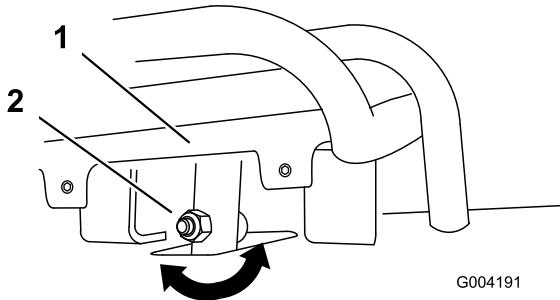
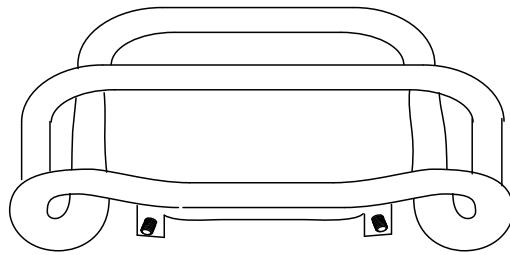

Figure 52
Figure 53
4. If the front of the traction control does not rest square and flush with the reference bar, loosen the nut and bolt in the stem of the traction control (Figure 52).
5. Adjust the traction control so that it rests flush against the reference bar when it is pulled straight back (Figure 52 and Figure 53).
- Loosen the flange nut and bolt in the stem of the traction control (Figure 52).
- I. Adjust the traction control so that it rests flush against the reference bar when it is pulled straight back (Figure 52 and Figure 53).